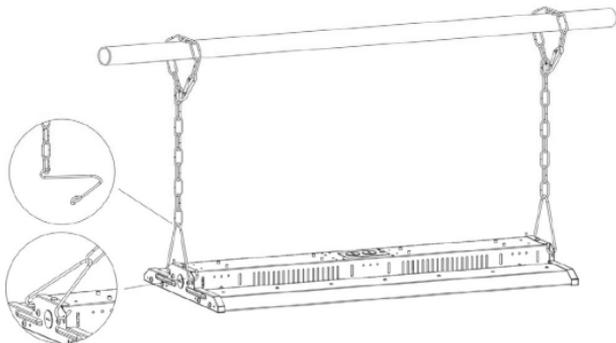

Fig. 2
- Alternatively, the fitting can be suspension mounted using the suspension chain and hook provided. Feed the hook through the chain and connect to the mounting holes on the ends of the luminaire (see Fig. 2)